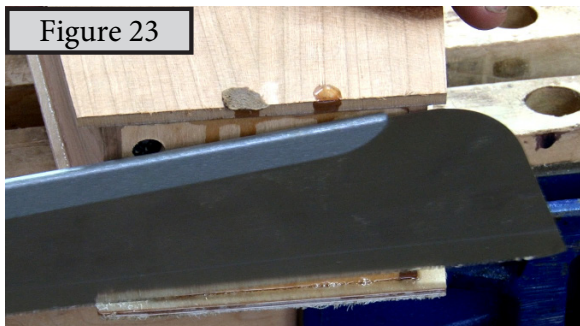

Figure 23
23) If you haven't already done so, this is the time to remove the overhang from the top and bottom of the back and soundboard. Use any sort of handsaw to accomplish this cleaning up. Also use this time to double check that all nails or staples are driven down slightly below the surface of the back and soundboard. (Figures 23 & 23a)